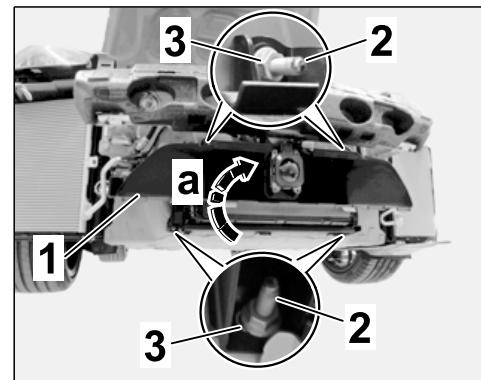

Figure 15
3.3 Guide radiator assembly  $\Rightarrow$  Figure 15-1- in between the body and distance measuring sensor control unit from below  $\Rightarrow$  Figure 15 -arrow a- and position it on the threaded bolts  $\Rightarrow$  Figure 15-2-.